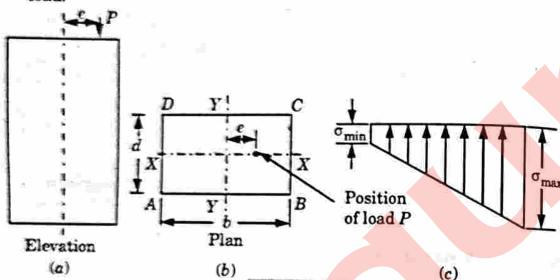

Fig. 4.15.1.
1. A column of rectangular section subjected to an eccentric load as shown in Fig. 4.15.1. Let the load is eccentric with respect to the axis Y-Y.
14. These stresses are shown in Fig. 4.15.1(c). The resultant stress along the width of the column will vary by a straight line law.
- Fig. 4.15.1.**